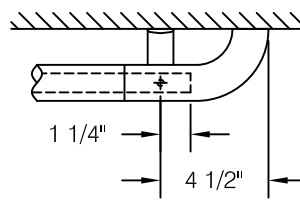
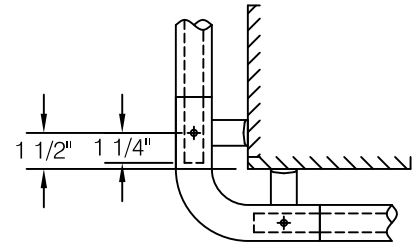
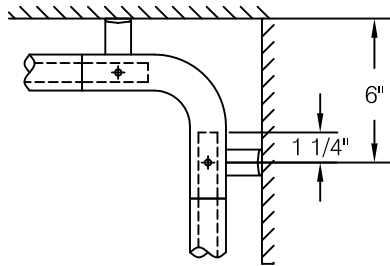

fig 2
fig 3a
fig 3b
- Step 2:** Wall return and corner accessories must be supported with a mounting bracket. At wall returns, locate a bracket 4 1/2" on center from where the handrail will terminate, see **fig 2**. At outside corners, locate brackets 1 1/2" on center from the corner, see **fig 3a**. At inside corners locate brackets 6" on center from the corner, see **fig 3b**.